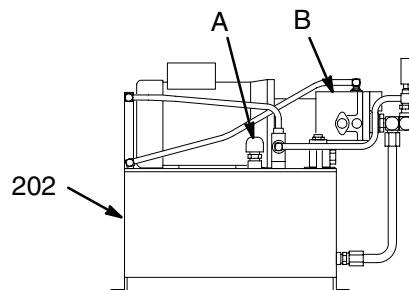

Fig. 3
5. Mount the Air Dryer (9) in a suitable location near the ISO and RES drums. Order Part No. 217341, if you did not order the Feed Pump Kit mentioned in Step 4. See the mounting hole diagram in manual 307548.
- a. Fill the bowl of the desiccant dryer. Unscrew the ring (10) to remove the dryer bowl.
6. Connect the hydraulic hoses (203 & 204) between the proportioning pump hydraulic motor (308) and the power supply (202).
7. Fill the hydraulic reservoir (A) with 10 gallons (38 liters) of hydraulic oil (206), supplied. Fill the hydraulic pump case (B) with hydraulic oil. See Fig. 3.
2. Connect the fluid hoses to the corresponding 3/8 npt outlet union of the fluid filters (22). See Fig. 3.
3. Connect the heat tape connector (16) to the hose control box cable (23). See Fig. 3.